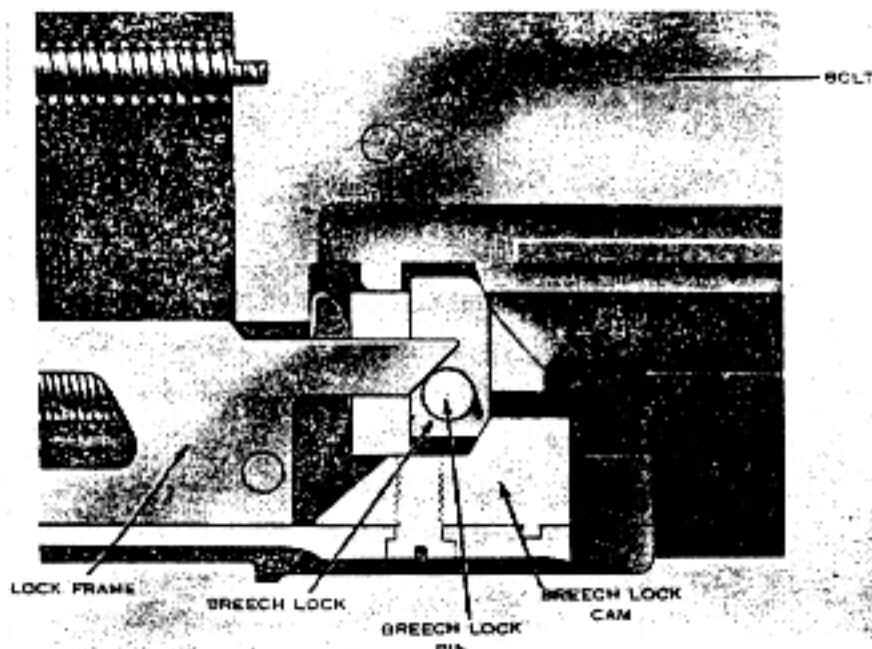

Figure 67. Breech lockpin coming in contact with the camming surfaces on the front projections of the lock frame.
- (2) When the firing pin goes forward the cartridge is ignited. The force of the explosion drives the recoiling groups to the rear. During the first five-sixteenths of an inch of this movement, the groups are locked together. During the next five-sixteenths of an inch, the bolt becomes unlocked from the barrel extension and moves away from the rear of the barrel. This unlocking takes place when the breech lock rides down off the breech lock cam, being forced down by the breech lockpin, which has come in contact with the cammed surfaces on the front projections of the lock frame (fig. 67). This permits the bolt to move independently to the rear. The barrel and barrel extension move only a total distance of five-eighths of an inch to the rear.